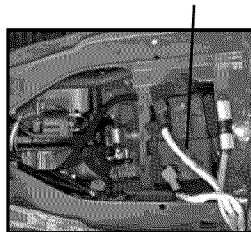

Figure 26
- Locate battery compartment on ATV. The battery compartment is located under the seat. (see figure 26)